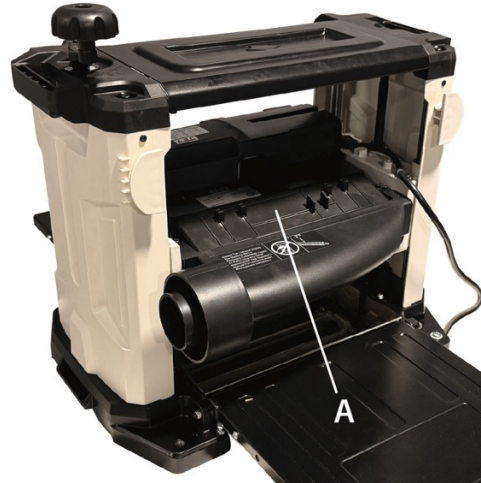

Figure 9-1
1. The cutterhead cover (A, Figure 9-1) prevents the rotating cutterhead from being touched from the top.